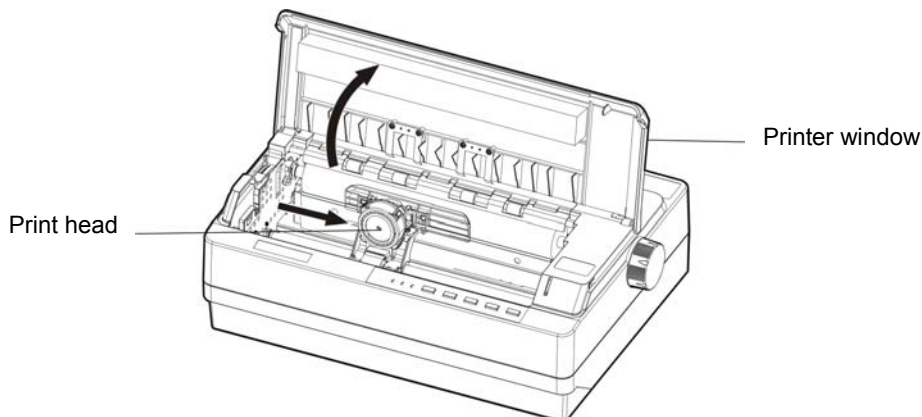

Figure 1-4 Open the window
4. Slide the print head to the middle of the printer. (shown as figure 1-4)